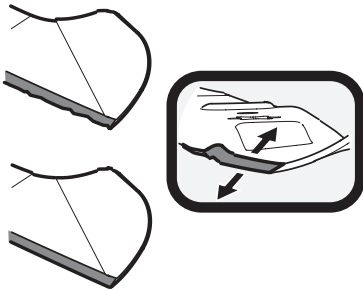

Figure 51
- To properly sharpen the cutting blades, remove equal amounts of metal from both ends of the blades along the cutting edges, parallel to the trailing edge, at a 25° to 30° angle. Always grind each cutting blade edge equally to maintain proper blade balance. See Figure 51.